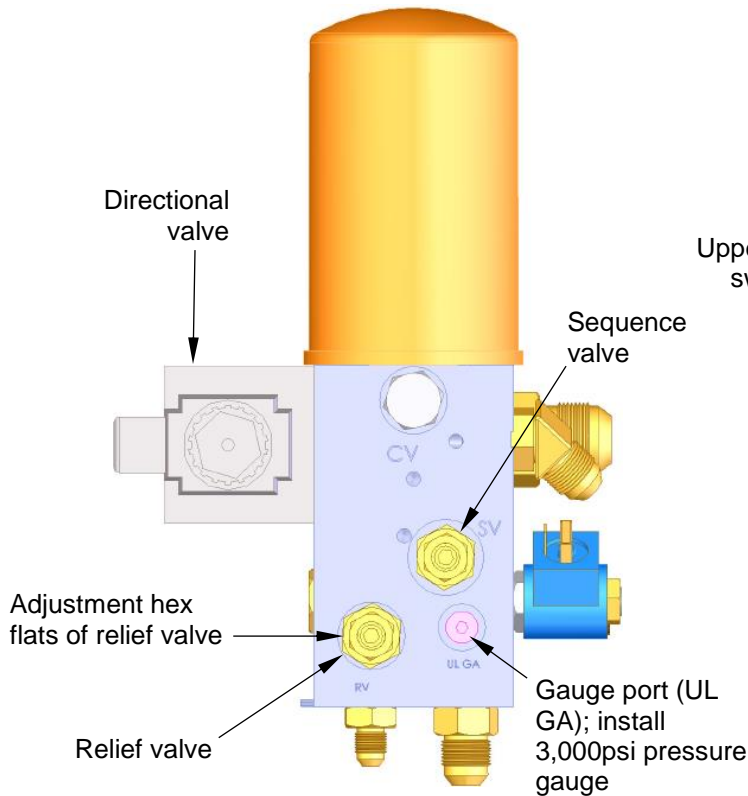

FIG. 7: Left side view
- b. Remove cap plug from UL GA port (located under sequence valve and pointing towards motor; see FIG. 7) and install a 3000 psi gauge.
3. Adjust the relief valve, which is connected to port RV as shown in FIG. 7. Turn the relief valve counterclockwise using an adjustable wrench on the adjustment hex of the valve.
7. While the motor continues to run and the piston rod is fully extended (platen at the bottom of its cycle), adjust the unload valve. The valve is connected to port SV. See FIG. 7.